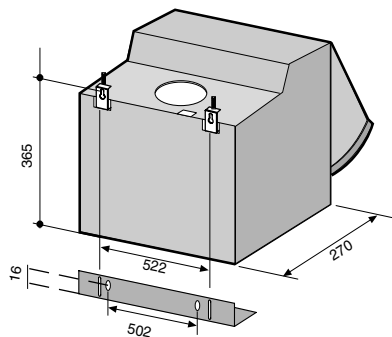

Fig.3
Take off the door (E) by removing the grill (G) and pulling at the same time the special spring locking knobs (H) fig. 3.
Fix the door on the front panel through the screws at the level indicated in fig. 3.